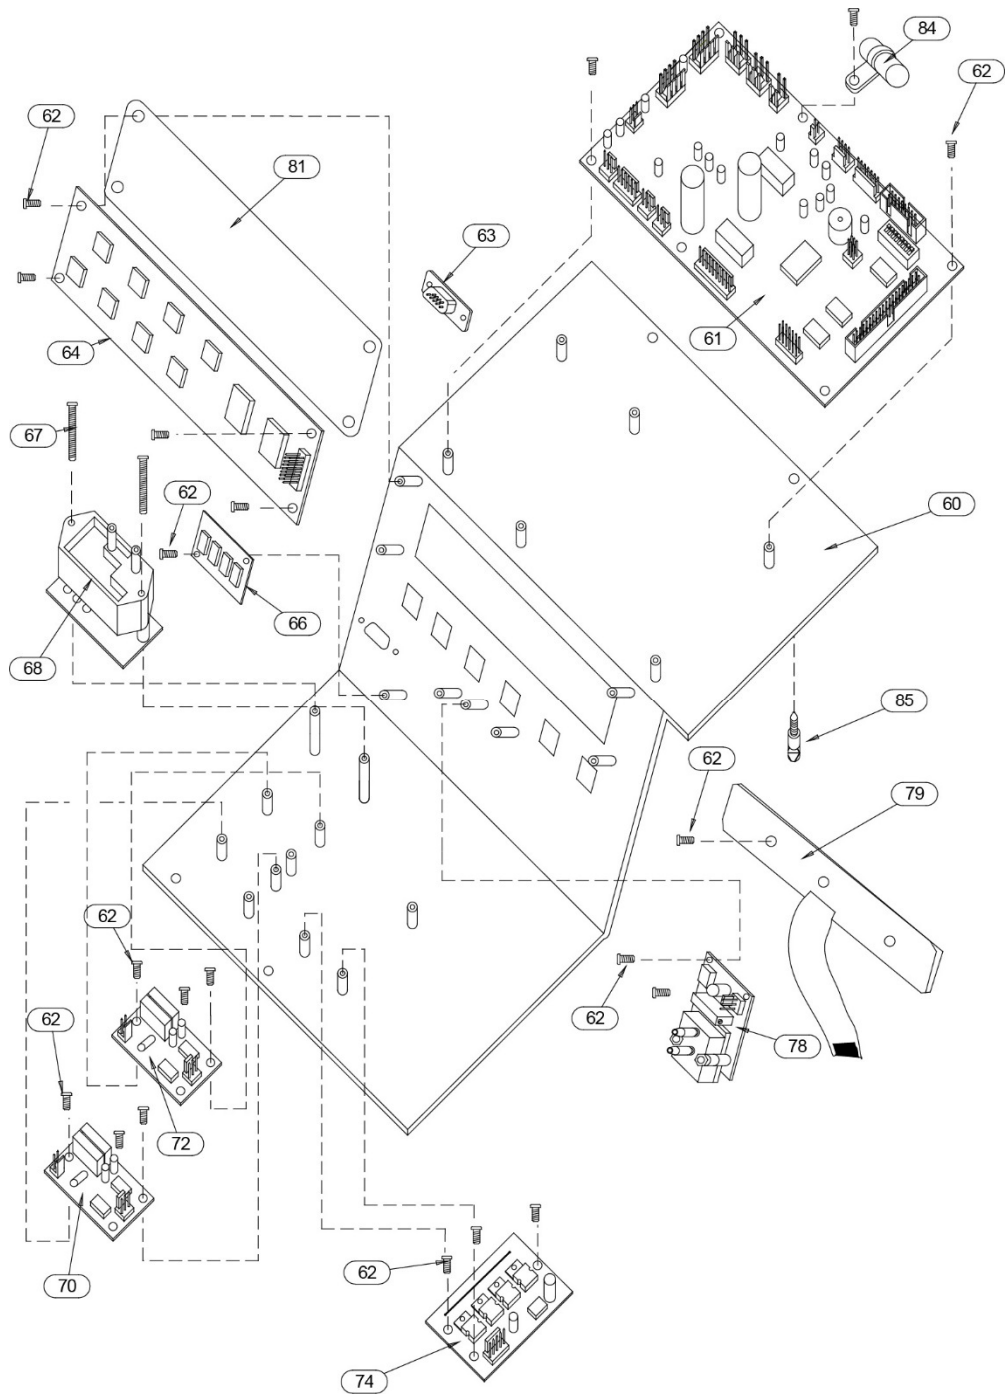
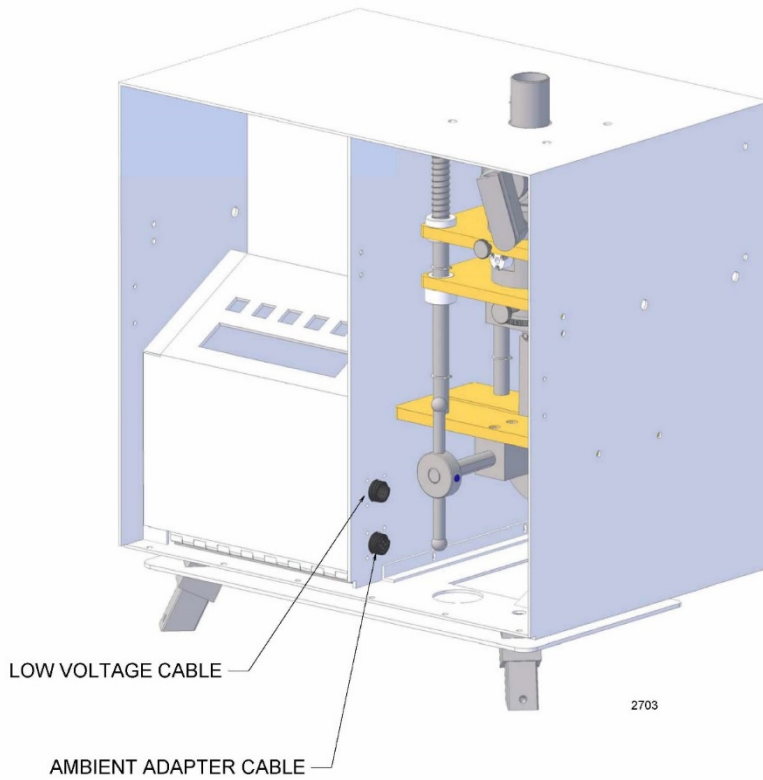

Figure K1. Exploded view of obsolete instrument panel configuration
Figure K3. Location of Low Voltage and Ambient Cables on Inside Panel
- 3) Remove 6 screws (62) holding Controller Board (61). Discard Controller Board and save screws, clock battery (84) and spacer. (See Figure K1)
- 4) Remove temperature boards (70 & 72), barometric board (68), static pressure board (78), button
board (79), display (64) and all cables from these boards. Discard boards and cables. Save screws. (See Figure K1)
- 5) Remove Ambient Sensor cable (A1680), External Power cable (A1679), Backlight Shunt cable with resistor (A1677), and Battery Cable (A1676). Discard all cables. Save the Resistor Clamp (143). Plug the two holes from the resistor clamp using existing screws and 2 nuts provided.
- 6) Install new Button Board (2546), Display (DS 2011B), Resistor Clamp (143) with Mounting Plate (2358) /Resistor Cable (2366) and Main Controller Board (2368) (See figure K3). Tighten all screws.
- n) Remove old Small Solenoid Hose and replace with new Static Pressure Hose (HO3033). Attach one end to the solenoid and the other to the front sensor tube marked "Static" (See figure K3)
- o) Take the old Solenoid Hose (126, Appendix A, Fig 4) and install one end where the old barometric hose was mounted in the bottom of unit on barb fitting. Take the other end and attach to the Sensor Tube marked "Barometric" on the Main Controller board (See figure K3). You may need to shorten the hose.